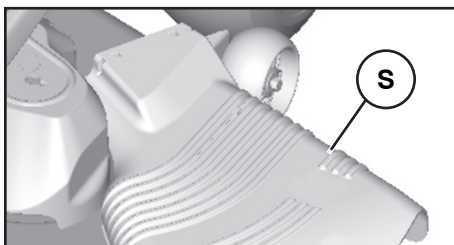

Fig. 12
**CAUTION:** Do not operate the mower without either the entire grass catcher, on mowers so equipped, or the deflector shield (S) in place (See Fig. 12).